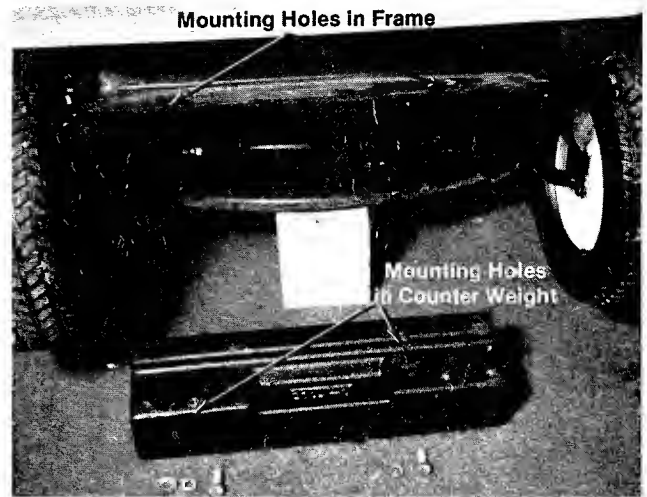

FIGURE 2
The counter weight mounts to the front of the riding mower with two hex screws (J), and flat washers (K). See figure 2.
1. There are four mounting holes in the counter weight. Align two of the four holes with the two holes in the mower's front frame. See figure 2.